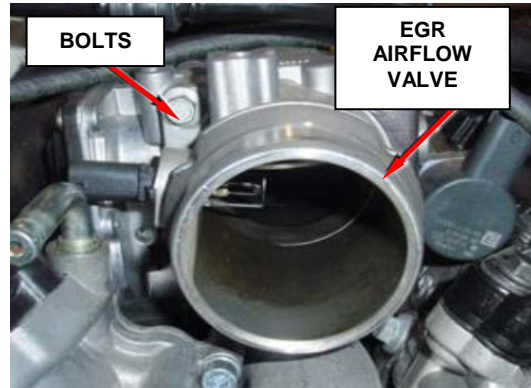

Figure 20 – EGR Valve
25. Remove the bolts and position the EGR airflow control valve forward to access the wire harness connector (Figure 20).
12. Install the EGR airflow control valve and tighten the bolts to (9 N·m 80 in. lbs.) (Figure 20).